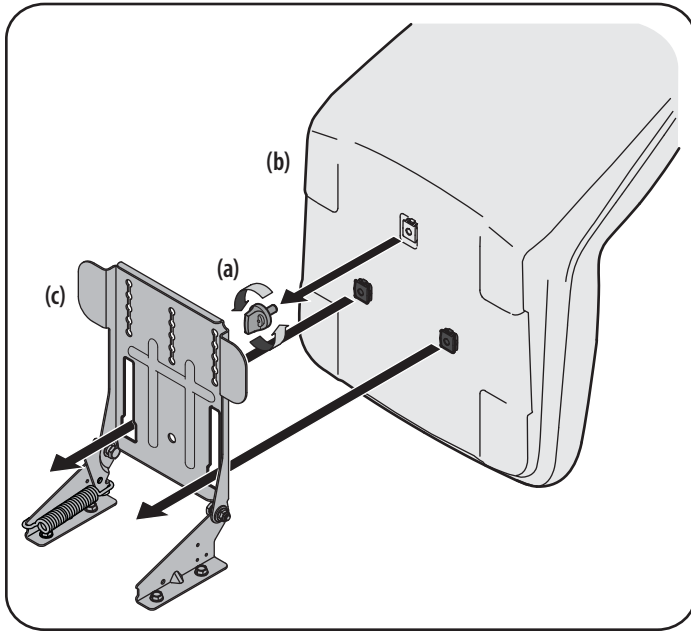

Figure 6
1. Remove the seat adjustment knob (a) from the bottom of the seat (b). See Figure 6.
2. Align the seat (b) over the seat pivot bracket (c) as shown in Figure 6 and fit the seat (b) onto the seat pivot bracket (c) inserting the two tabs on the seat (b) bottom into the slots on the seat pivot bracket (c).